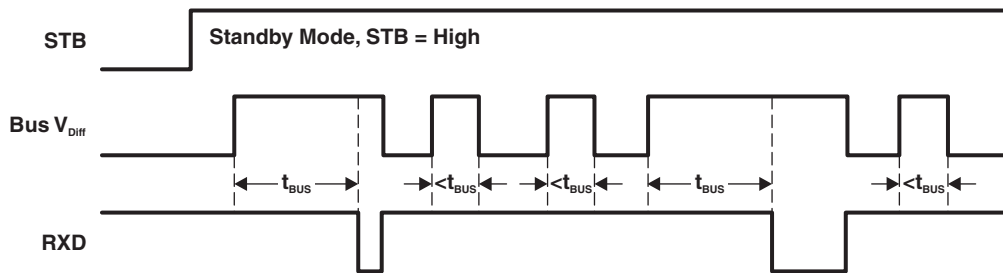
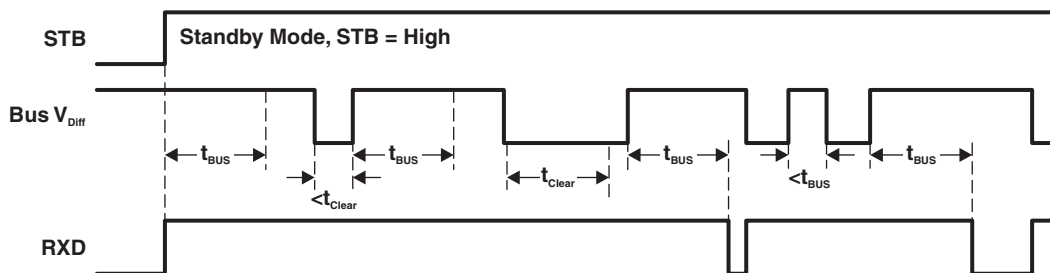

Figure 17. HVDA541 RXD Wake Up Request With No Bus Fault Condition
Figure 18. HVDA541 RXD Wake Up Request Lock Out When Bus Dominant Fault Condition
- (2) See Figure 17 and Figure 18 for operation of the low power wake up receiver and bus monitor for RXD Wake Up Request behavior and Table 5 for the wake up receiver threshold levels.
- (3) When V_{IO} is undervoltage, the device is forced into standby mode with respect to the CAN bus since there is not a valid digital reference to determine the digital I/O states or power the wake-up receiver.
(1) Mirrors bus state: LOW if CAN bus is dominant, HIGH if CAN bus is recessive.
(2) See Figure 17 and Figure 18 for operation of the low power wake up receiver and bus monitor for RXD Wake Up Request behavior and Table 5 for the wake up receiver threshold levels.
- (1) H = high level, L = low level, X = irrelevant, ? = indeterminate.
- (2) While STB is high (standby mode) the RXD output of the HVDA540 is always high (recessive) because it has no wake-up receiver.
- (3) While STB is high (standby mode) the RXD output of the HVDA541 functions according to the levels above and the wake-up conditions shown in Figure 17 and Figure 18.